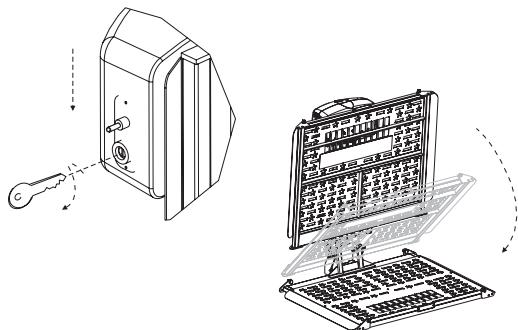

Figure 7-2
3. Continue to lower the platform until it reaches the ground and becomes level. *See Figure 7-2.*